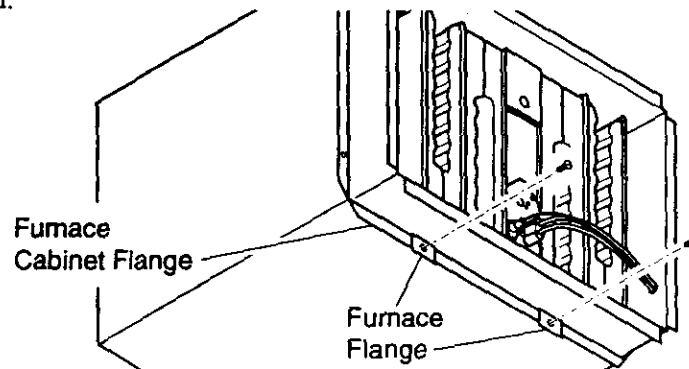

**Figure 9 - Locations of Screws in Back of Furnace Cabinet (25,000 Btu/Hr Model)**
1. Remove the two screws in back of furnace cabinet located by the exhaust vent(s) (see Figures 9 and 10).